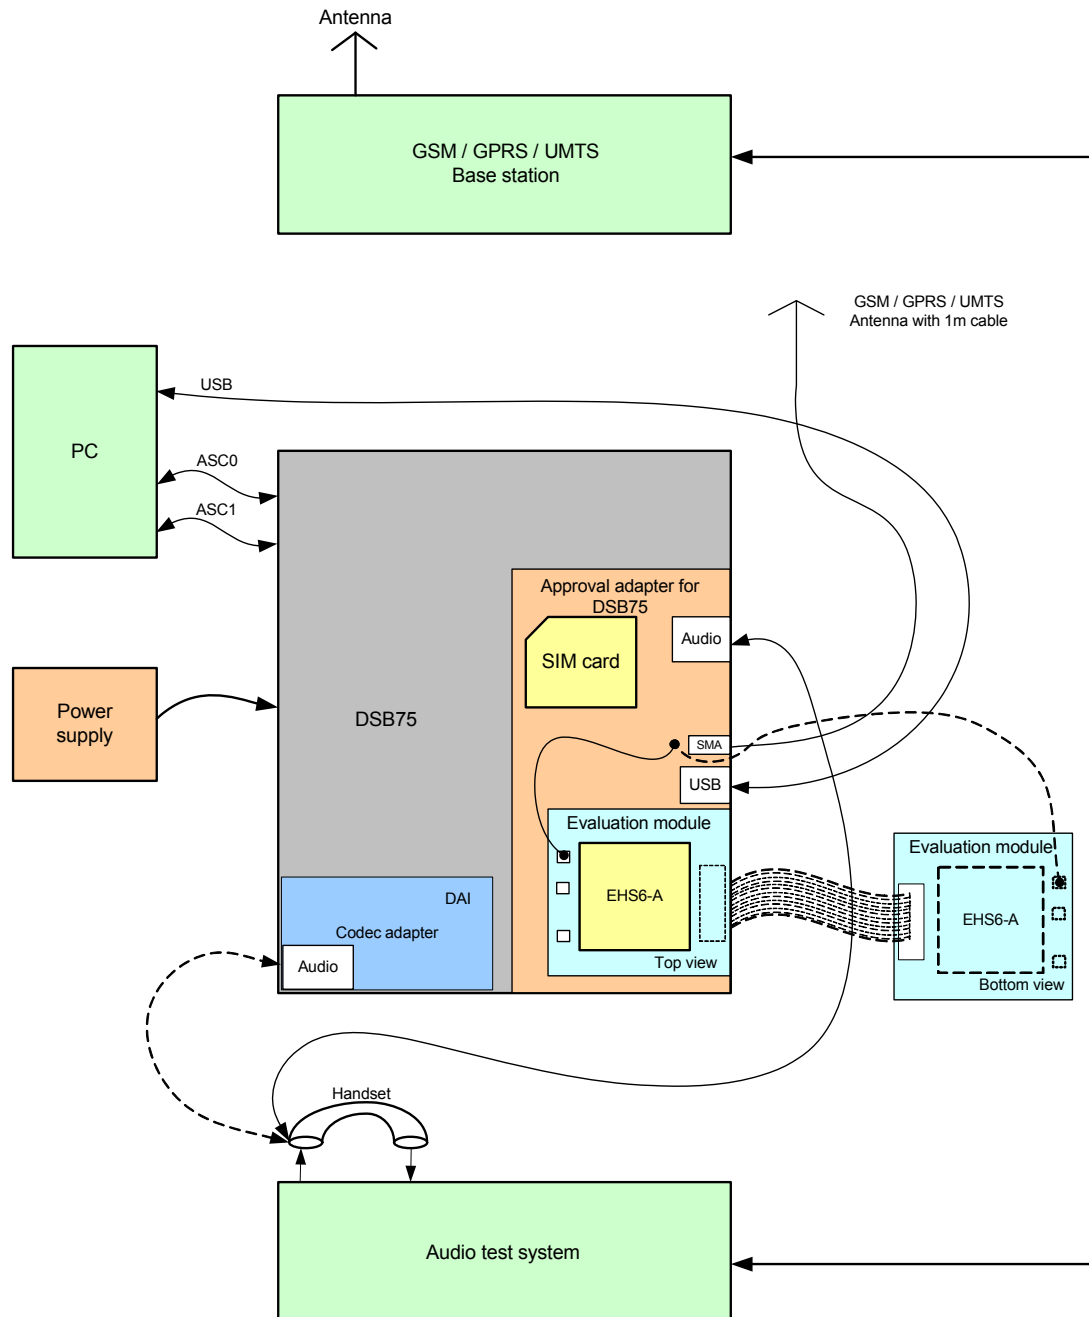

Figure 9: Reference equipment for Type Approval
1. For RF performance tests a mini-SMT/U.FL to SMA adapter with attached 6dB coaxial attenuator is chosen to connect the evaluation module directly to the GSM/UMTS test equipment instead of employing the SMA antenna connectors on the EHS6-A-DSB75 adapter as shown in Figure 9. The following products are recommended: